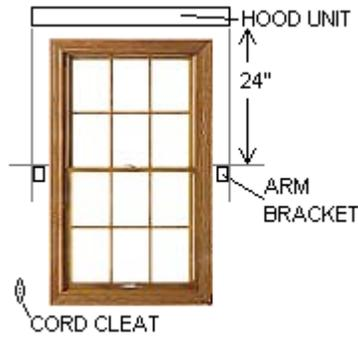

Figure 4:
12. To determine the location for the Arm Bracket measure down 24" from the bottom edge of each Hood Unit Wall Bracket and mark the horizontal as shown in Figure 4.
13. Using a straight edge aligned with the edge of the Hood Unit, ensure the straight edge is level and mark the vertical where it crosses the horizontal as shown in figure 4. Repeat for both sides of awning.
17. Determine location of the Cord Cleat on the wall and mark the hole locations. For wood, vinyl, stucco or aluminum siding pre-drill the hole locations using a 1/8" drill bit. For brick or concrete walls, using a 1/4" masonry drill bit, drill holes approximately 1 1/2" deep. Insert plastic wall anchors into holes, and using a hammer, tap flush with the surface of the concrete. Install the Cord Cleat using the (#8 x 1) flat head screws provided. For best results, install the Cord Cleat near the bottom left corner of your window as in Figure 4.